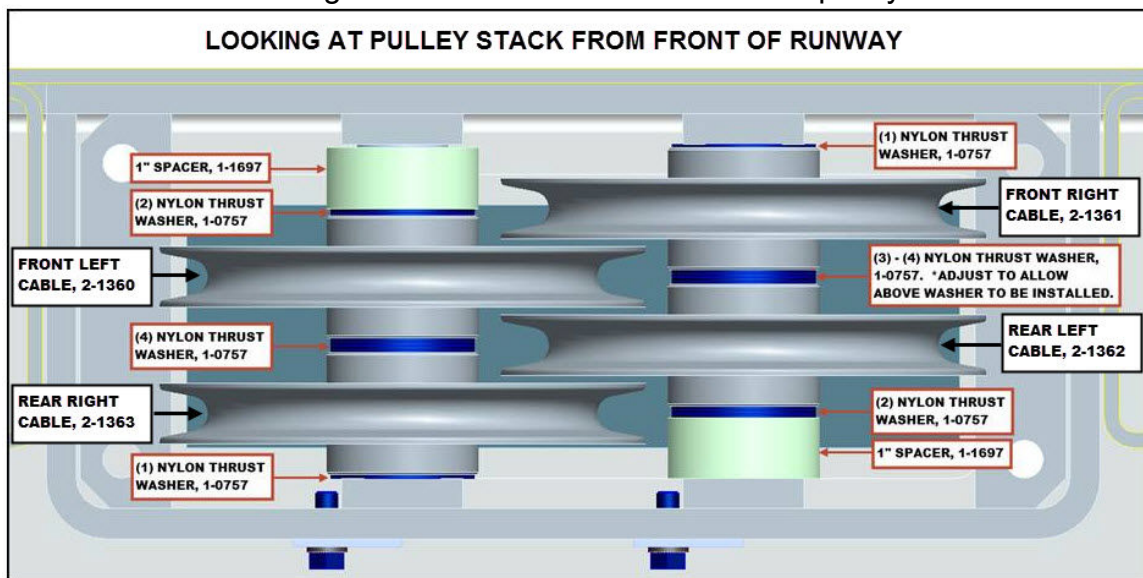
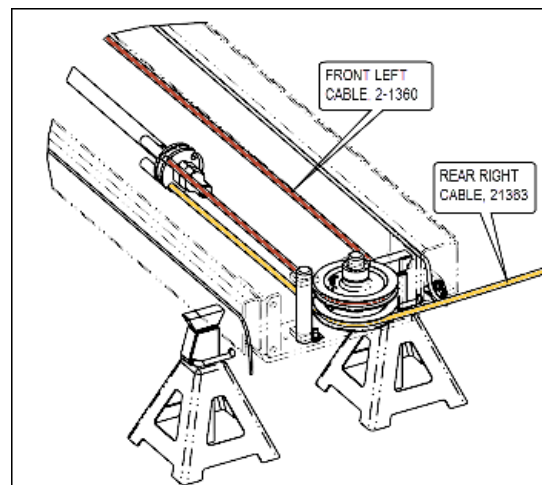
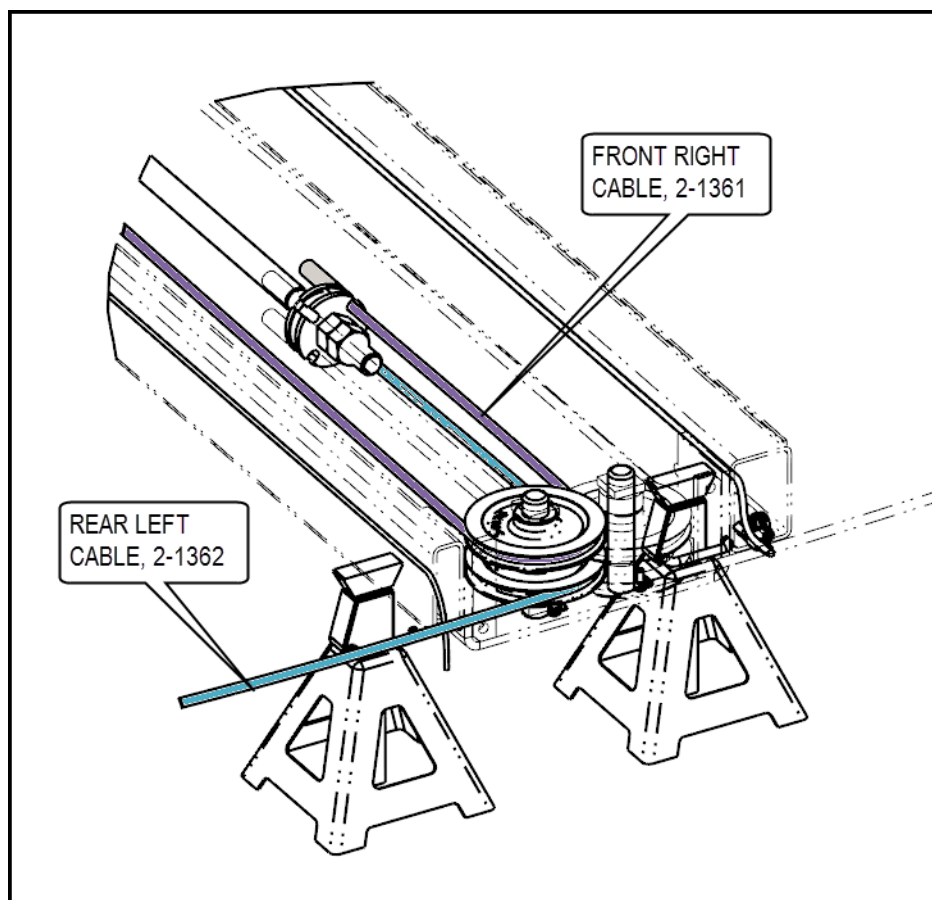

Figure 8. Rear Pulley Stack Assembly
Figure 9. Front Left and Rear Right Cable Installed at Rear
Figure 10. Front Right and Rear Left Cable Installed at Rear
9. Referring to **Figure 8** and **Figure 9**, assemble the left side of the pulley stack, as shown, with cables 2-1363 & 2-1360 starting from the bottom of the stack and working to the top.
10. Referring to **Figure 8** and **Figure 10**, assemble the right side of the pulley stack, as shown, with cables 2-1362 & 2-1361.